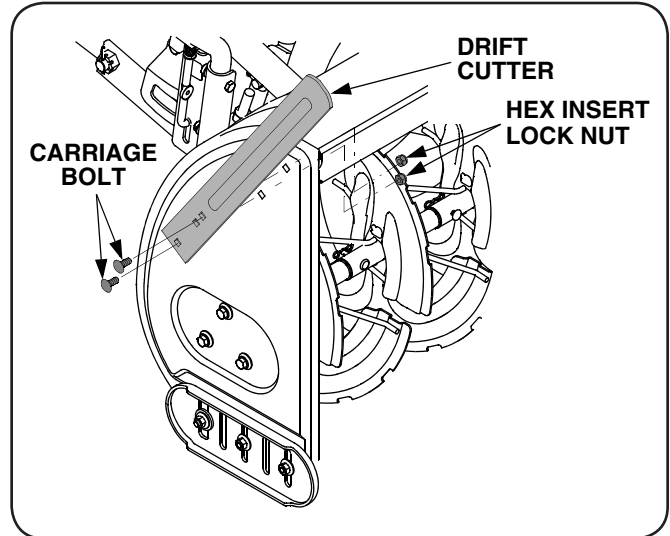

Figure 6-2
Drift cutters on both sides of the auger housing can be adjusted to the up position for a higher cut. Refer to Figure 6-2 and proceed as follows:
- Turn the drift cutters to the up position and secure with the carriage bolts and hex insert lock nuts as shown in Figure 6-2.